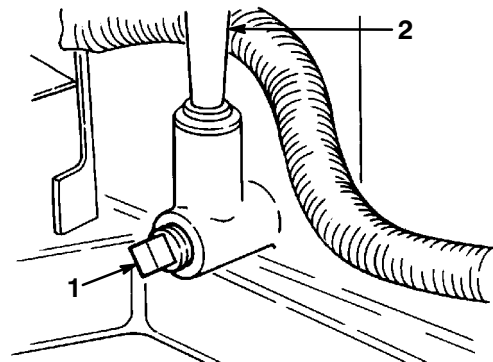

Figure 16
4. Place a pan below the oil dipstick/fill tube and remove the drain plug (Fig. 16).